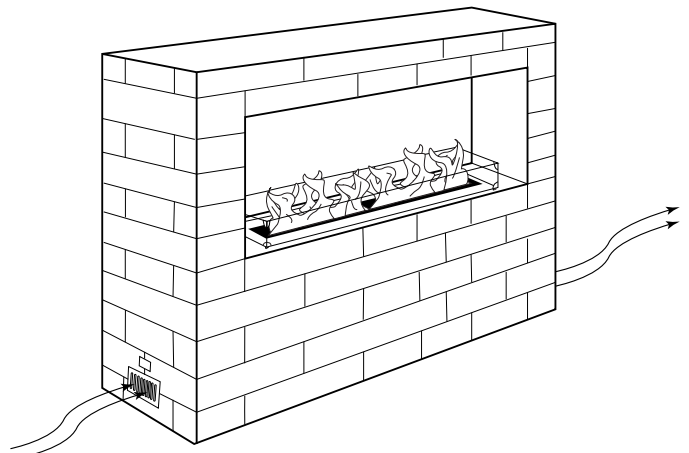

Figure 3 - Cross ventilation example providing minimum of 18-square inches per side using the Cross Ventilation Kit, VENT-KIT-6x12 (Cat. No. F3535), provided.
- 9. CAUTION:** A minimum of 18 square inches of cross ventilation (per side) is required to keep the inside of the enclosure dry. Install the supplied VENT-KIT-6x12 (cat. no. F3535) approximately 3 to 4 inches from the floor centered on each end of the fireplace (*See Figure 3, Page 5*).
Fireplaces are subjected to many outdoor elements such as rain, snow, wind, heat or cold. **A minimum of 18 square inches of cross ventilation (2 sides) is required to keep the components in good working order.** Use **Figure 3** as a guide.